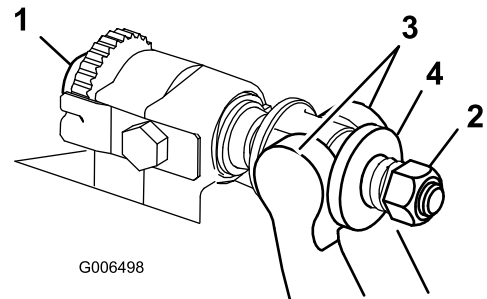

Figure 24
1. Turn bedbar adjuster screws counterclockwise to back the bedknife away from the reel (Figure 24).
2. Back out the spring tension nut, until the washer is no longer tensioned against the bedbar (Figure 24).